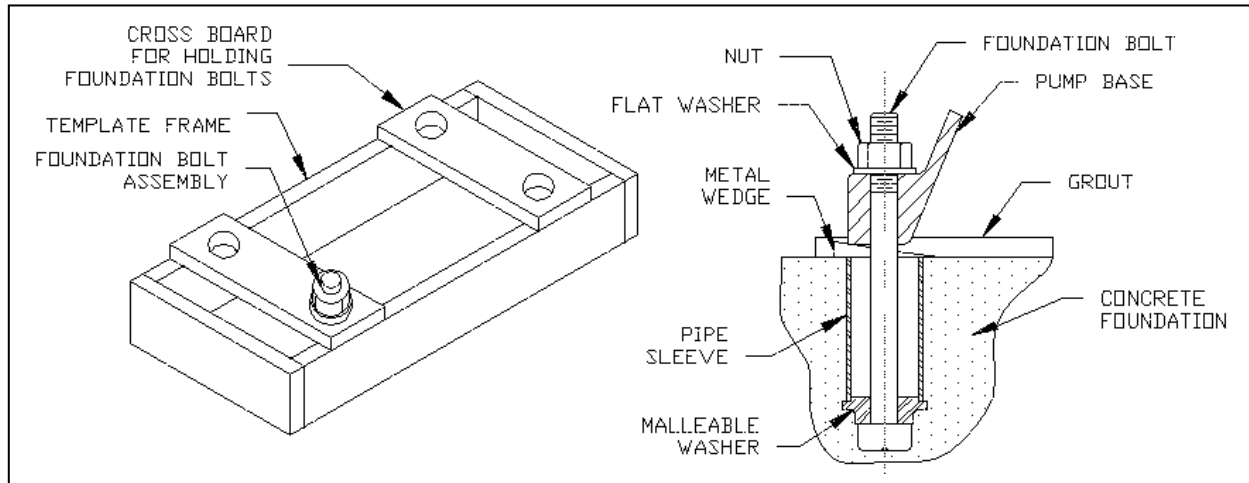

Figure 1 FOUNDATION BOLT LOCATION AND ANCHORAGE
3. Before pouring the foundation, locate the foundation bolts by the use of a template frame and provide anchorage as shown in Figure 1. See the outline drawings furnished with each pump for the exact location of the foundation bolts. When pouring, allow for a grout thickness of $\frac{3}{4}$ to $1\frac{1}{2}$ inch. Roughen top surface to provide a good bond of the grout. Ordinarily, the proportions used are 1 part cement to 3 parts sand and 4 parts medium aggregate.